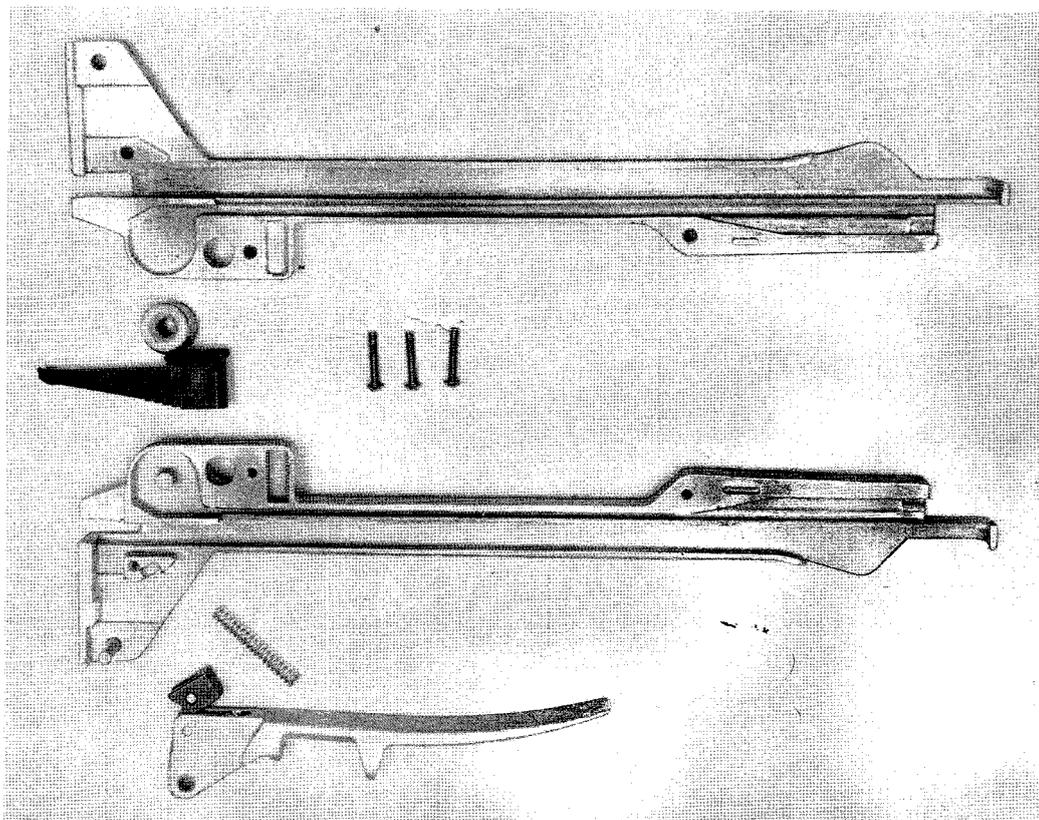

Fig. 10—◆Disassembled H Connector Presser◆
3.06 ◆The connector presser can be taken apart for cleaning by removing the three round head screws (Fig. 10).◆